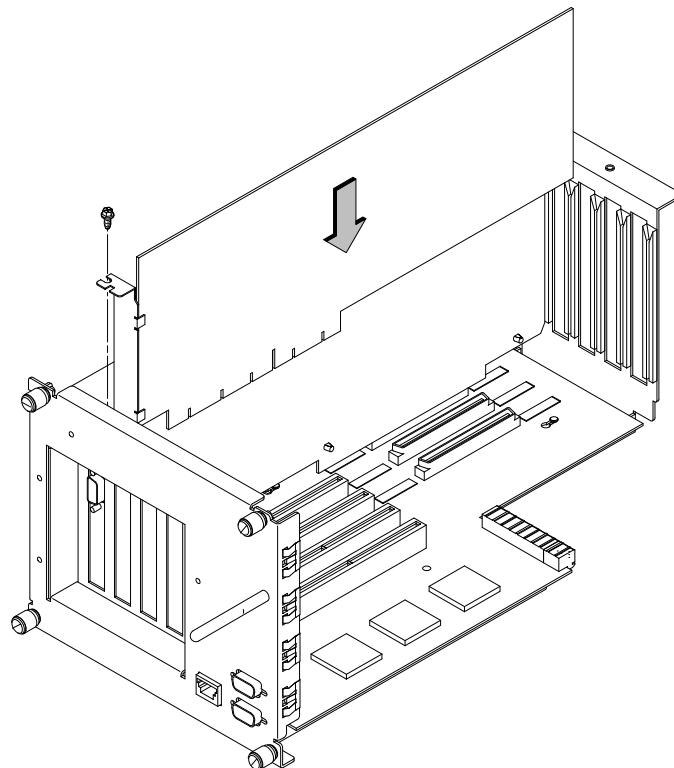

Figure A-36. Installing an EISA or Graphics Board in the EISA Assembly
- 5.** Place EISA or graphics board you are installing in the board guides and slide firmly into the connector. Check to see the board is evenly inserted to seat properly. See Figure A-36.